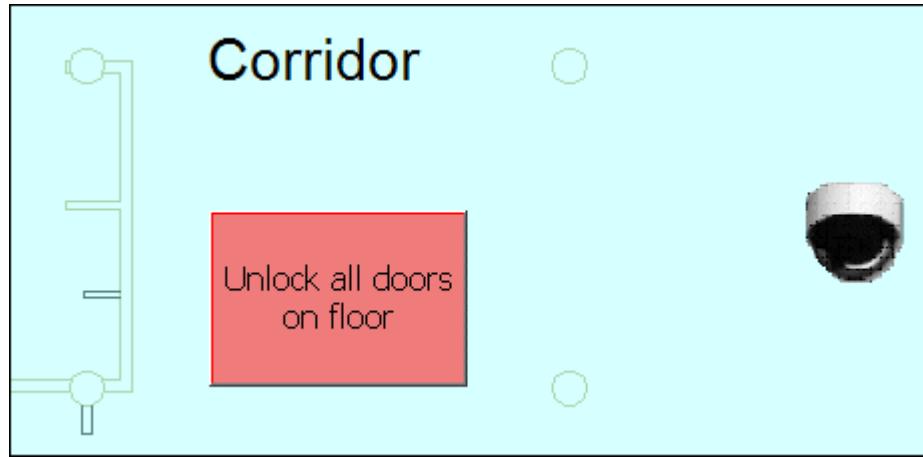

Fig. 20 Example of graphic command button on a map
7. Close the window to save your changes. (See Fig. 20.)